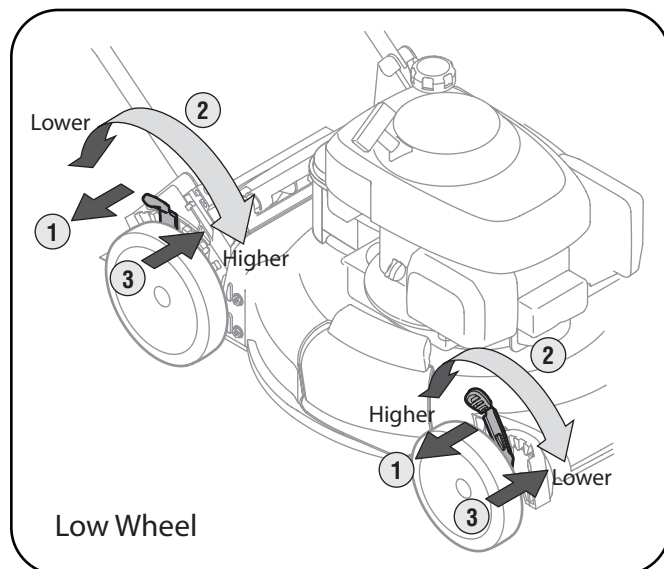
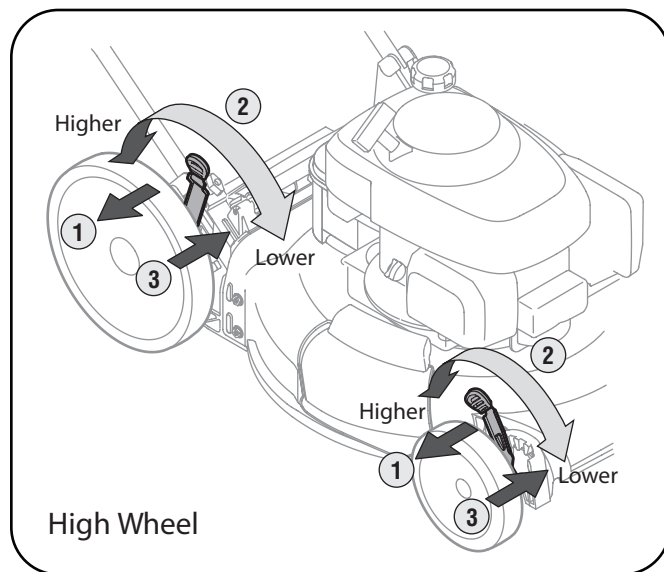

Figure 3-10
Figure 3-10A
2. Move lever to desired position for a change in cutting height. See Fig. 3-10 and Fig. 3-10A.